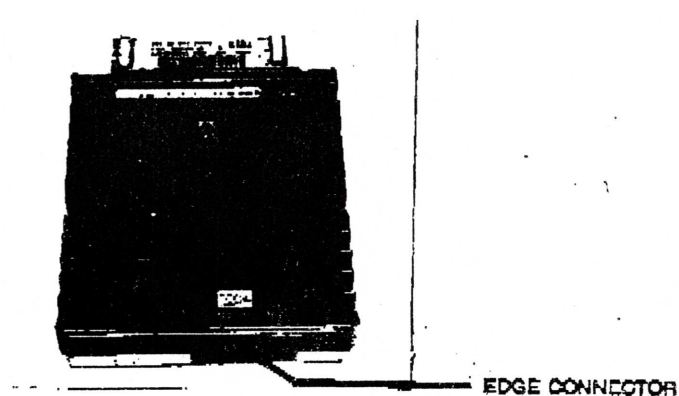

FIG.2 EEC WITH COVER REMOVED
- FIG. 2 STOCK FRESH AIR INLET TUBES**